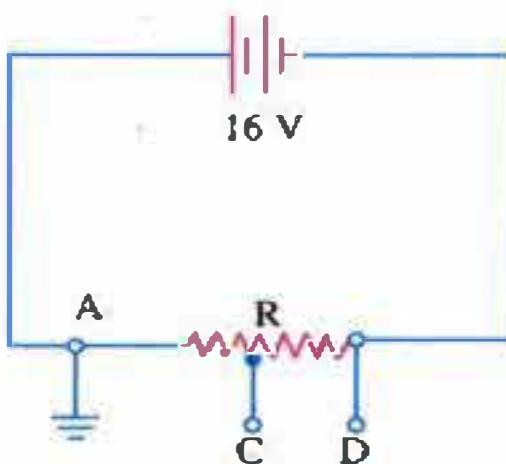

Fig. 1.15
1. Find the potential of points (i) C and (ii) D in Fig. 1.15 if C is located at mid-point of the resistor R. What is the direction of current flow through CD ? [−8 V; −16 V; C to D]